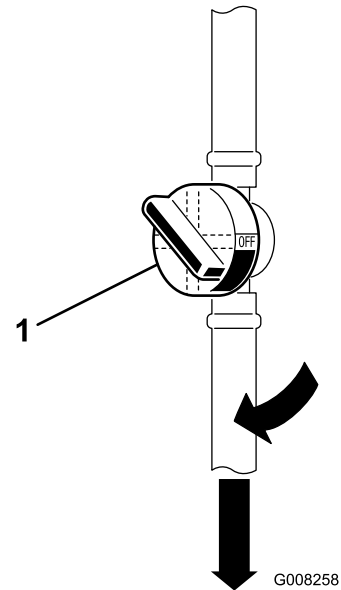

Figure 9
1. Open the fuel-shutoff valve located between the fuel tank and the engine (Figure 9).